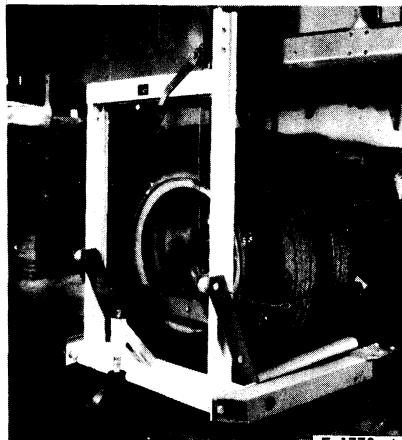

FIG. 4 Typical Wheel Jack
5. Bend the tab of the lock washer away from the lock nut and remove the lock nut (Fig. 4).
6. With the type of wheel jack shown in Fig. 4, raise the wheel to the point that all weight is removed from the wheel bearings.
7. With the type of wheel jack shown in Fig. 4, raise the wheel so that all wheel weight is removed from the wheel bearings.